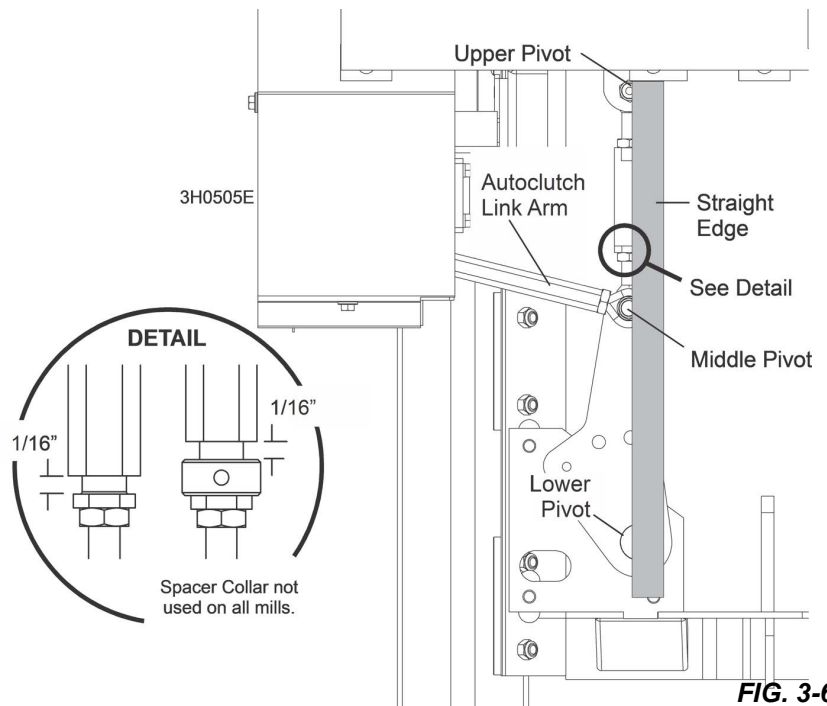

FIG. 3-6
9. Make sure the distance is not less than 1/16" (it can vary for different sawmills). See FIG. 3-6.